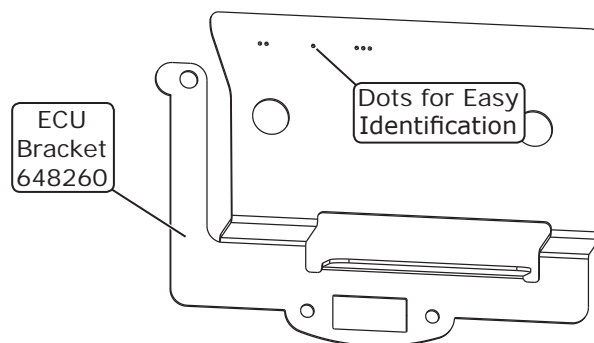

Figure 6
2. Plug the (5) evaporator connectors into the ECU (these (5) connectors were disconnected on Page 15) (See Photos 100 & 101, below). **NOTE: Be sure to reinstall the connectors in the original place, original order, and correctly onto the pins. The ECU bracket has dots engraved onto it to determine the locations of the first (3) connectors (See Figure 6, below).**